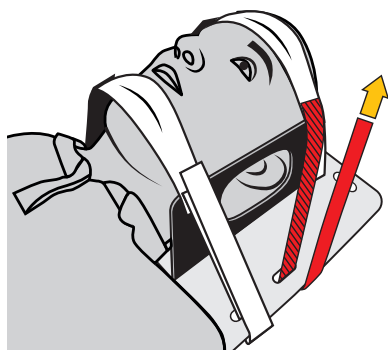

Fig.6
- a) place the patient's head in the head immobiliser and immobilise it using the padded straps (Fig. 6),